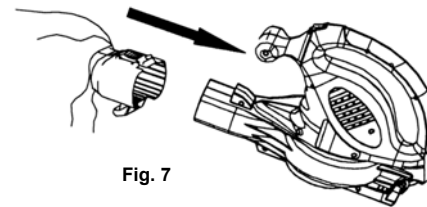

Fig. 7
4. Align locking tab with motor's locking tab holder and slide onto blower outlet until you hear a click. (Fig 7)